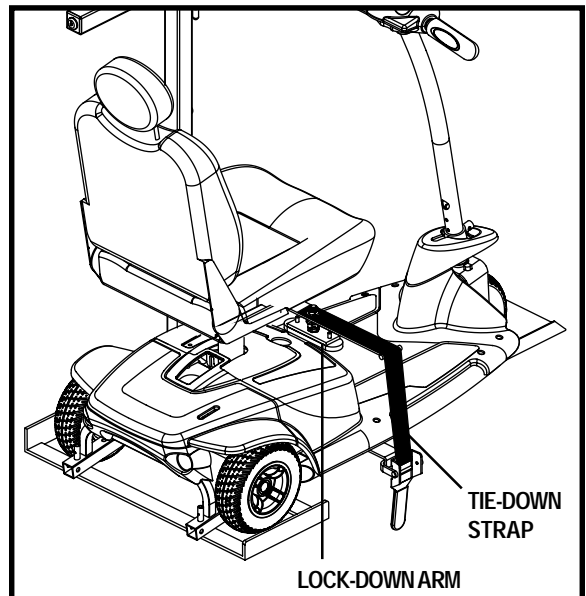

Figure 7. Power Tote P-150 Lock-down Arm
5. Lower the lock-down arm over the mobility device floorboard. See figure 7.
- Attach the tie-down strap to the securement bracket on the platform and tighten the strap. See figure 7.